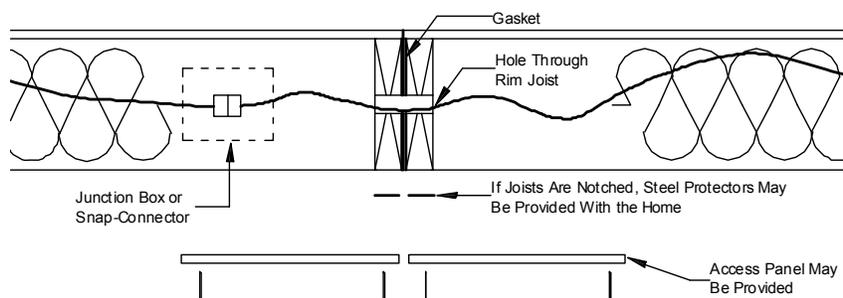

Figure 62. Electrical crossover floor wires with flush access panels
1. **Access wires.** Find the crossover location(s) and remove the access panel(s) if attached. If access panel openings are not provided, cut through bottom board to expose the wiring (**Figure 62**).